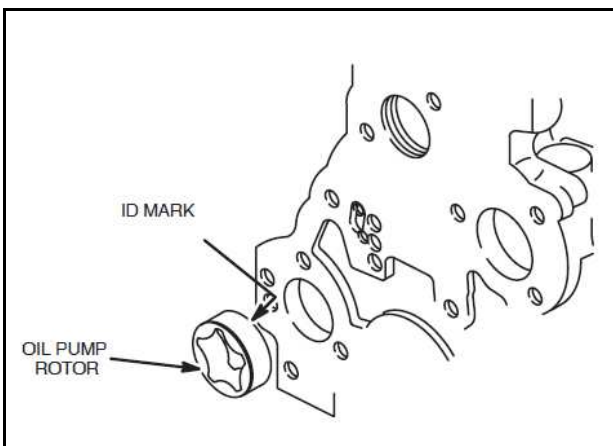

Fig.12-Installing Oil Pump Rotor
1. Clean and lubricate oil pump rotor with engine oil and install in cylinder block, Fig.12.